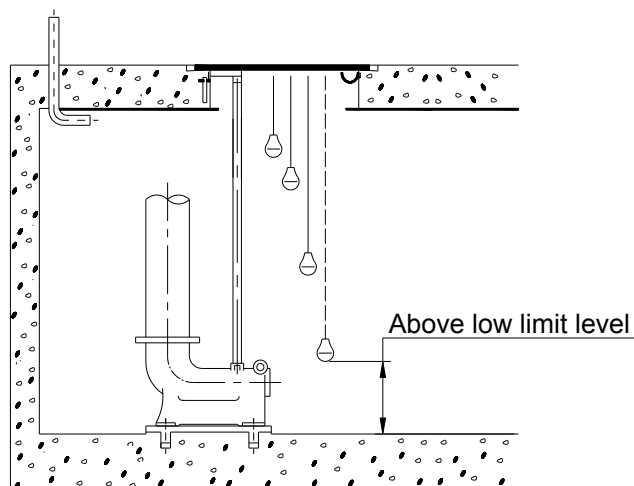

Fig. 6
3.5 Water Level Switch Installation (Fig. 6)